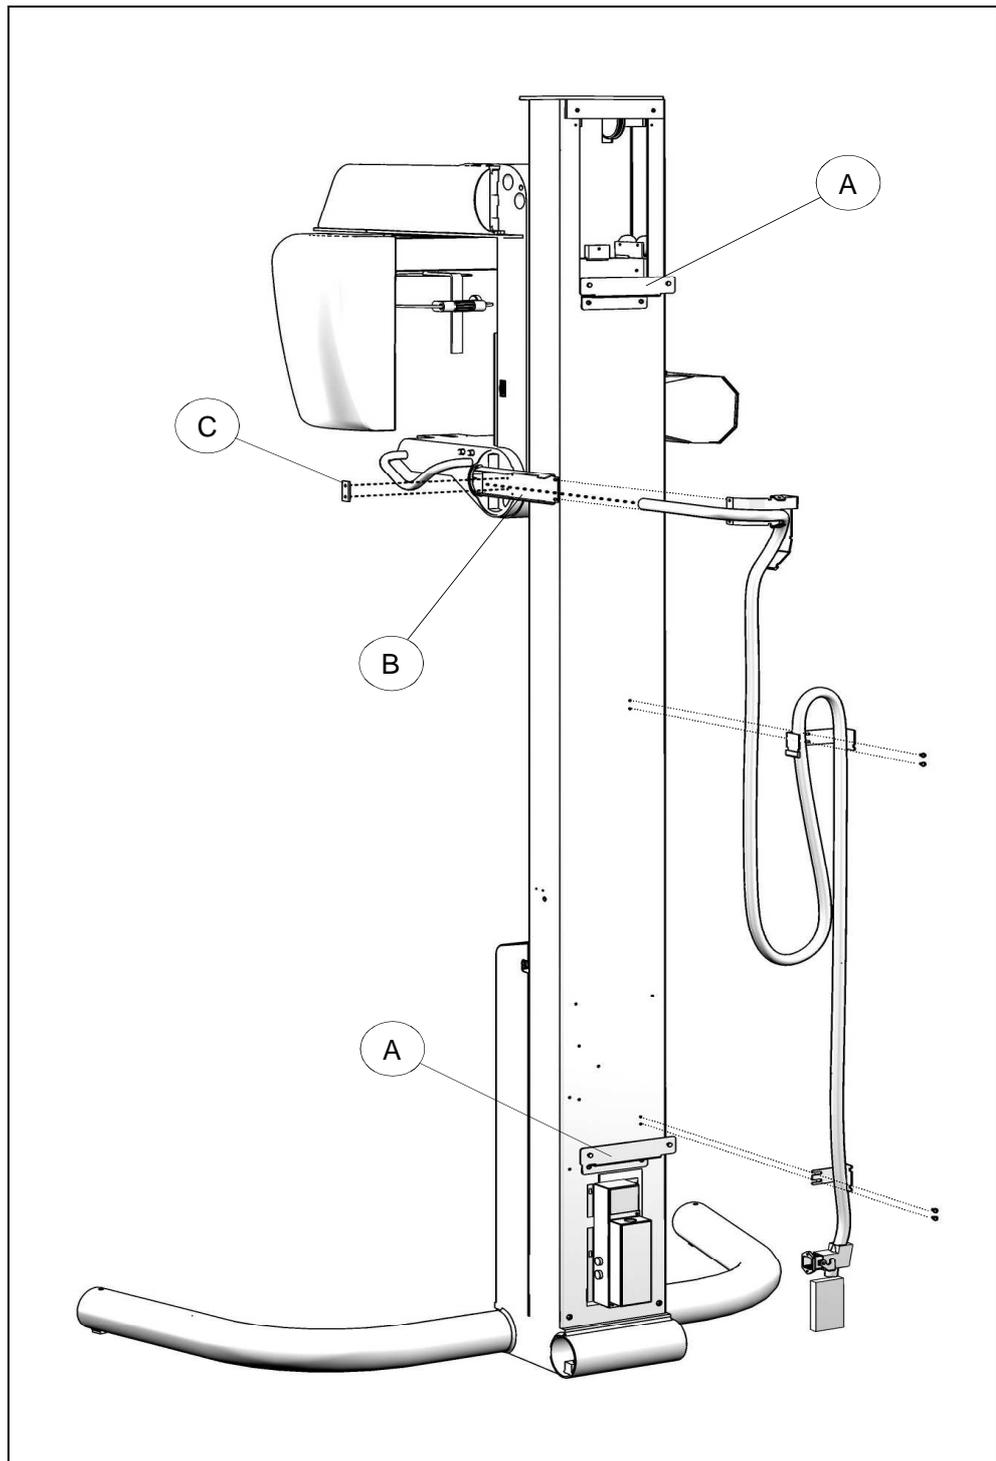

Figure 6-7
14. Install the two brackets "A" (code 5608100300) and the cable support bracket "B" (supplied inside the relevant cover) (Figure 6-7).
- 15.** Fix the cables routing it as shown in Figure 6-7. The upper connectors have to enter inside the chin support through the relevant hole. Fix the cable to the bracket "B" using the plastic plate "C" (code 5608500600).